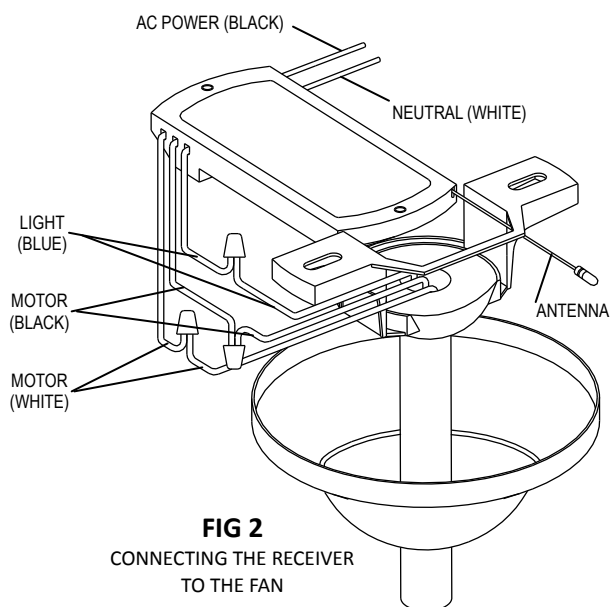

FIG 2
4. Make wiring connections per FIG. 2.